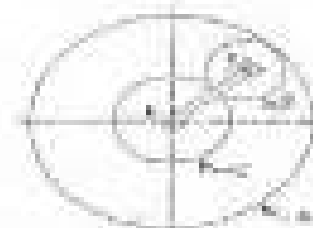

Fig. 3h
**b) An epicyclic gear train consists of three wheels A, B and C as shown in fig. 3h. Wheel A has 72 internal teeth, C has 32 external teeth. The wheel B gears with both A and C and is carried on an arm which rotates about the centre of A at 18 rpm. If the wheel A is fixed, determine the speed of wheels B and C. [10]**